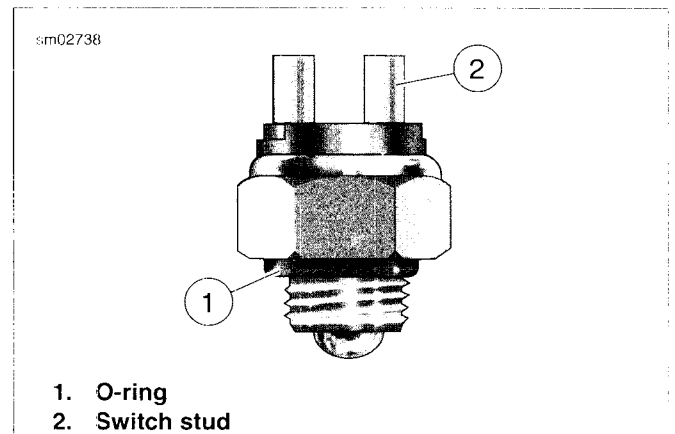

Figure 7-79. Neutral Switch
3. See Figure 7-79. Remove connectors from switch studs.
1. See Figure 7-79. Lubricate o-ring with transmission oil.